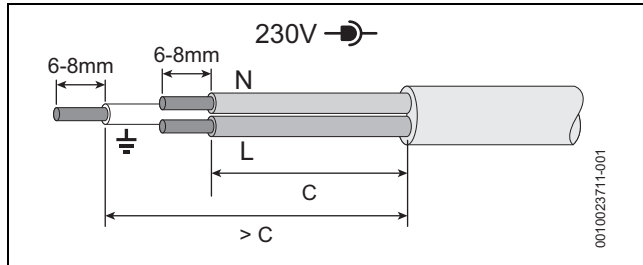

Fig. 53 Power supply (power cables) preparation
**Power supply (power cables),** example → figure 53
- ▶ Ensure the conductors (C) can reach the appropriate terminal connection and that the protective (earth) conductor is longer than the other wires.